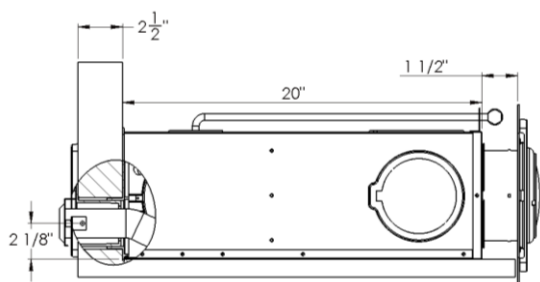

**Figure 1**
1. Cut the required exterior wall opening for your venting system see Figure 1.
1. Locate furnace and cut opening in outside wall as shown in figure 1.